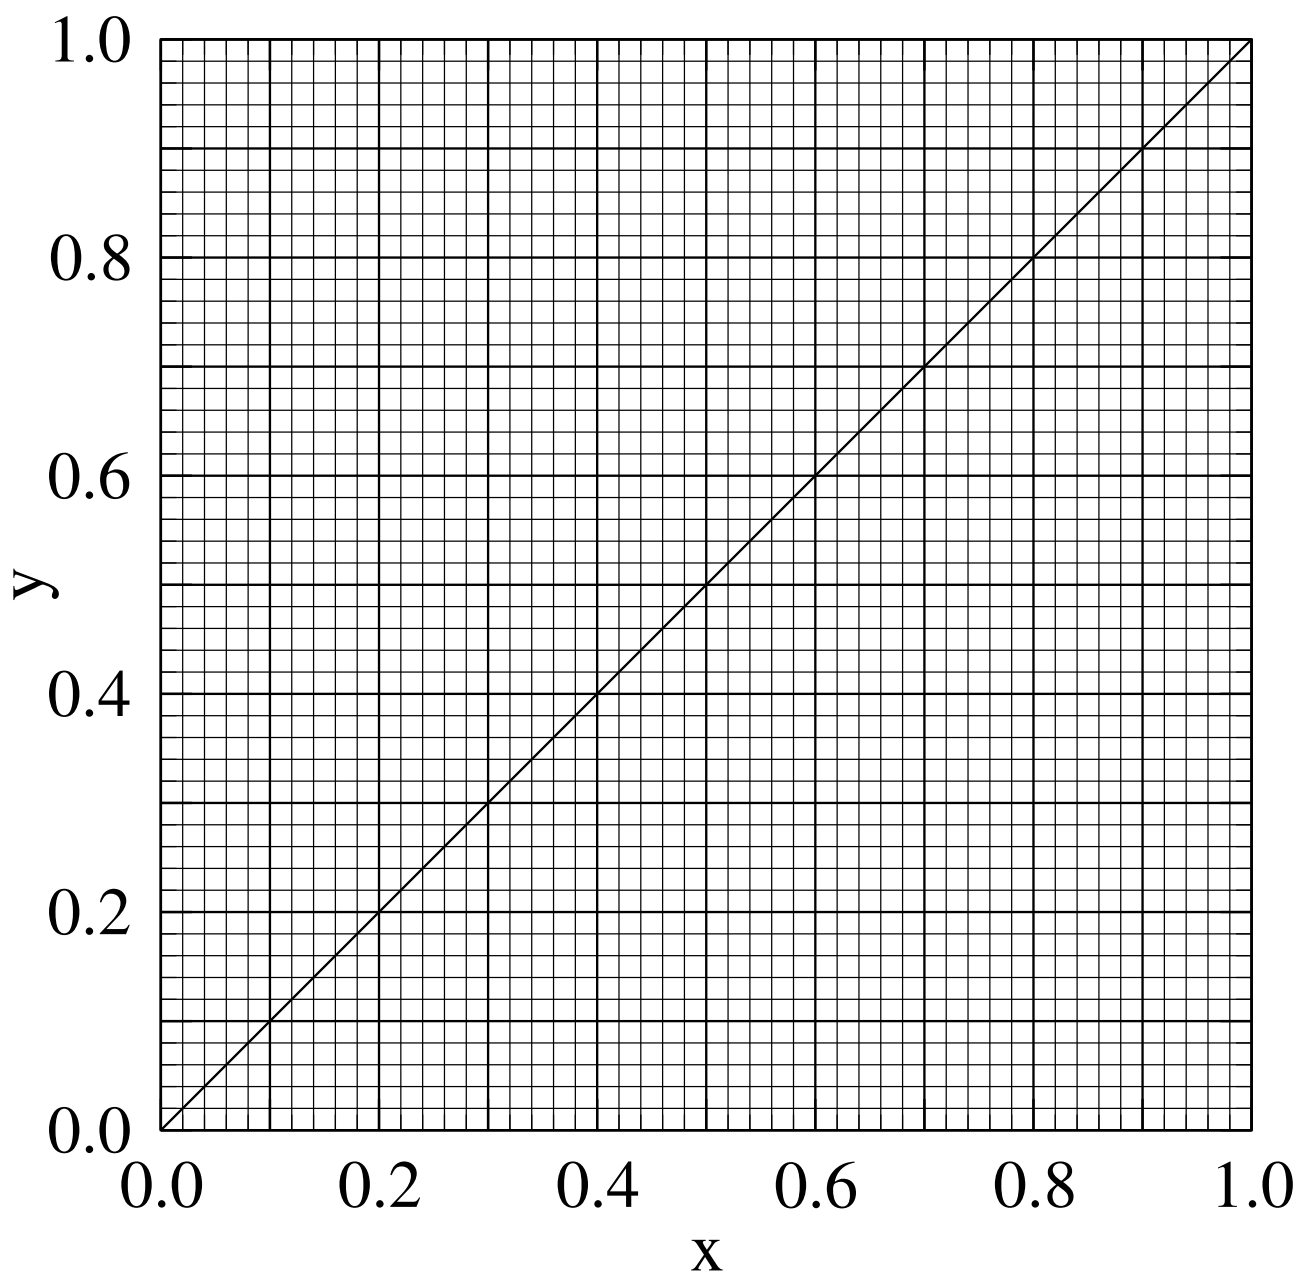

Figure 15: A blank chart for plotting VLE/operating-line data on. For use in Q. 23.
- a) Calculate the number of theoretical trays required to perform this distillation **and** the feed tray number. A blank VLE graph is given in Fig. 15.